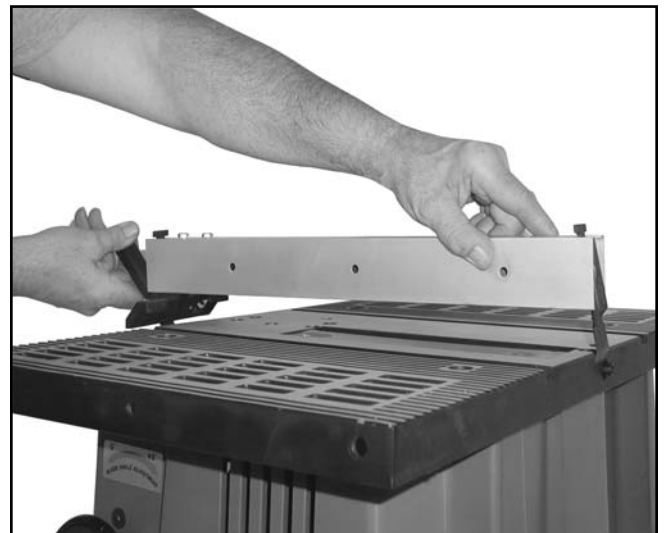

Figure 9. Attaching fence to saw table.
2. Lift the fence over the saw's table top, ensuring that the rear holding clamp fits over the rear rail. **See Figure 9.**